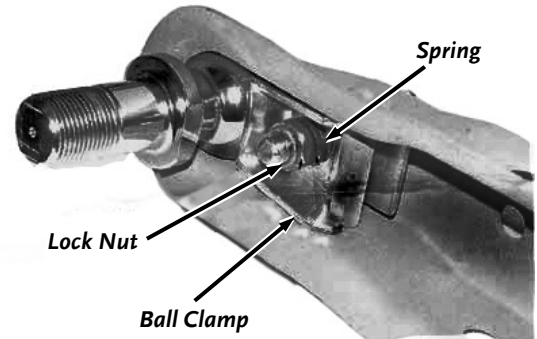

Figure 35
1. With the proper size ball in the socket of the hitch coupler, close the latch of the coupler completely (**Figure 35**). Verify that the locking trigger is properly engaged in its detent.